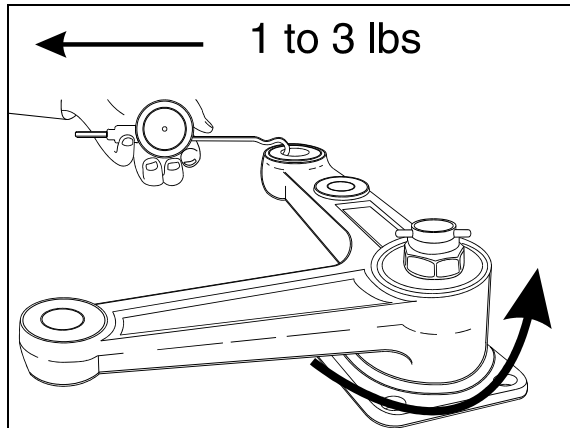

FIGURE 10: BELL CRANK
6. Unscrew nut until bell crank or idler arm starts to turn by the application of 1 to 3 pounds load (Fig. 10).